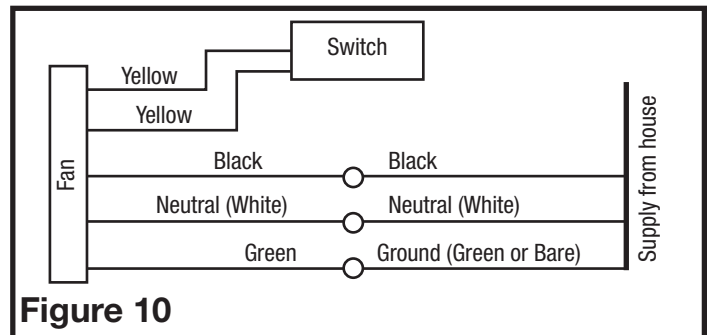

Figure 10
4. For two speed fans wired for continuous ventilation, connect the White wire of the fan to the White (Neutral) wire from the power source. Connect the ground wire from the house to the Green wire from the fan housing. Connect the Black wire of the fan to the Black wire (Hot) from the power source. The fan will operate on low speed continuously and boost to high upon a rise in humidity. Using a properly grounded standard duplex toggle switch (such as Leviton 5224-2W, not included) connect the Black wire from the supply to one side of the top and bottom switch. A manual override switch (not included) can be used to provide a manual fan Off function (Figure 10).